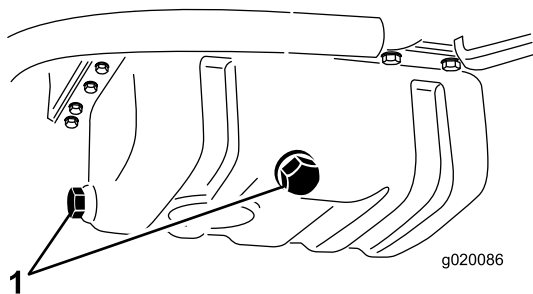

Figure 56
2. Remove either drain plug (Figure 56) and let the oil flow into a drain pan. When the oil stops flowing, install the drain plug.